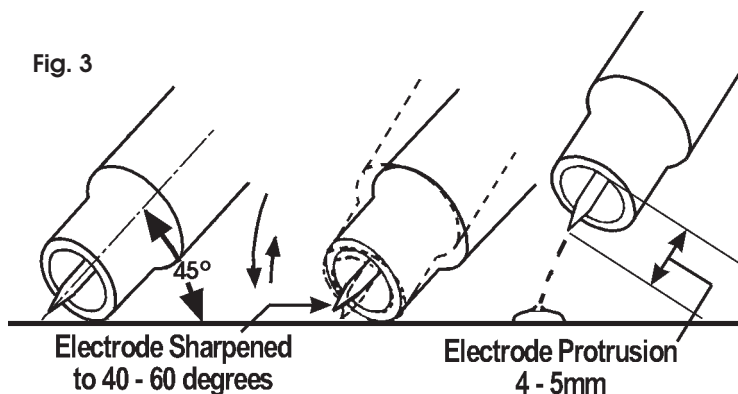

Fig. 3
6. Open the gas valve on the torch handle, allowing gas to flow from the torch nozzle. Cover your face with the head shield, bring the torch to within 3-4mm of the work, and at an angle of 45°, so that the ceramic nozzle gently touches the work surface. See fig. 3.